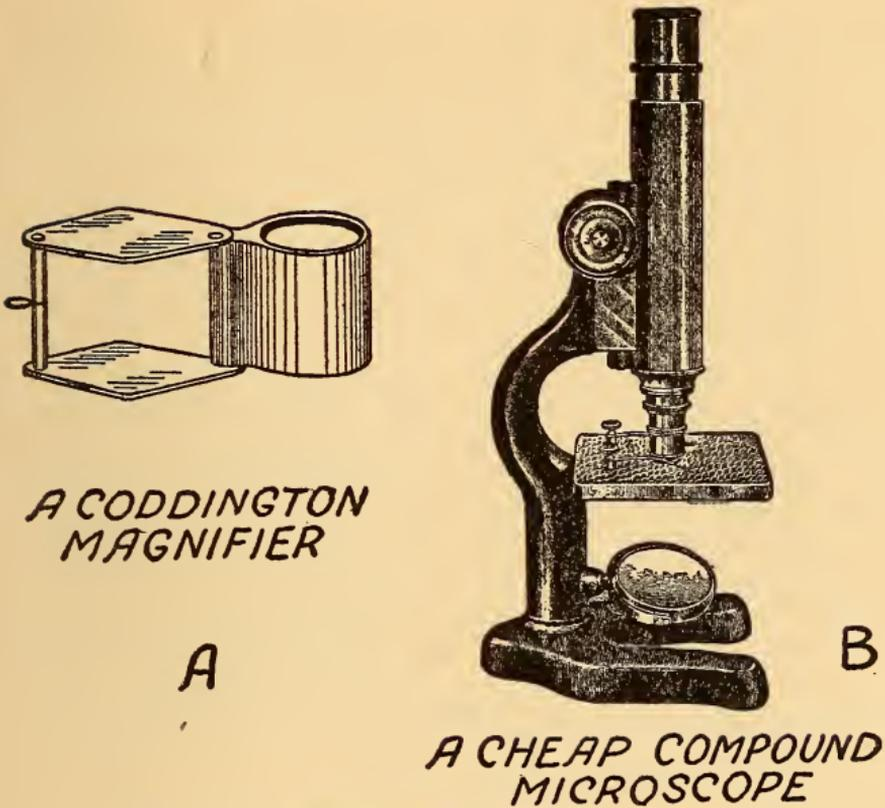
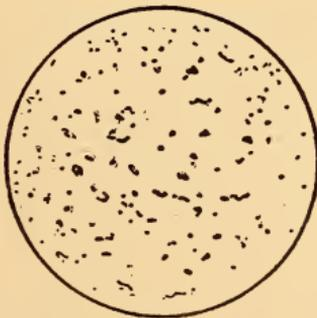

FIG. 11. A MAGNIFIER AND A MICROSCOPE
FIG. 12. A DROP OF WATER MAGNIFIED
*The Use of the Microscope.*—A microscope of very low power, see Fig. 11, will show you any number of living and dead objects in your water ( $H_2O$ ) supply. You must bear in mind, however, that very few of the living forms of life you see in water are harmful, for, unlike Germans, some germs are good even though they are alive. Fig. 12 shows a drop of water greatly magnified.